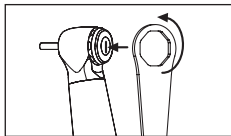

Fig. 30
- 3 Locate the correct wrench tool on the head cap then turn the wrench counter clockwise to loosen the cap. Remove the cap (Fig. 30).